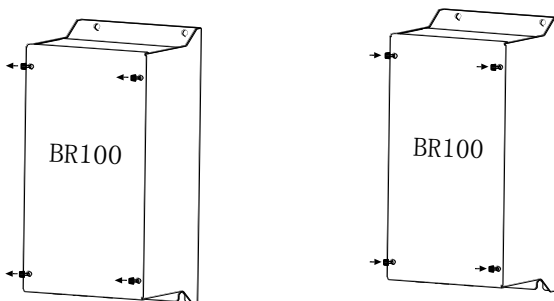

Figure 7 Front Cover Assembly
- Assemble the cover in opposite direction and by opposite steps, and tighten the screws after wiring is completed. See Figure 7.